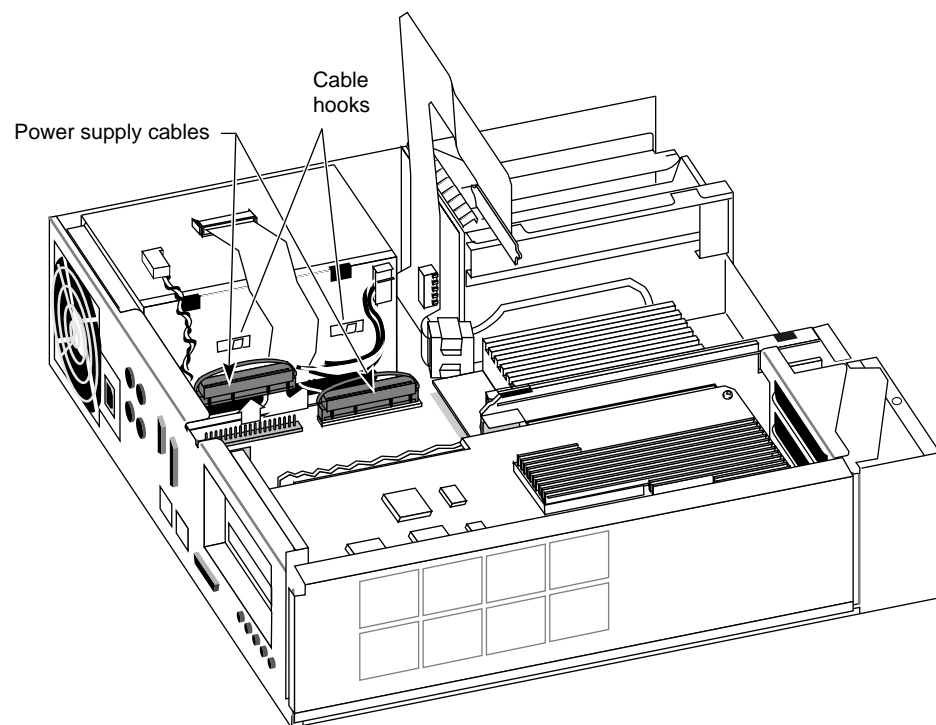

Figure 9-20 Removing the Baseboard Power Cables
- Hang each connector by its strap on the two wide hooks that are above the connectors and attached to the side of the power supply. See Figure 9-20.